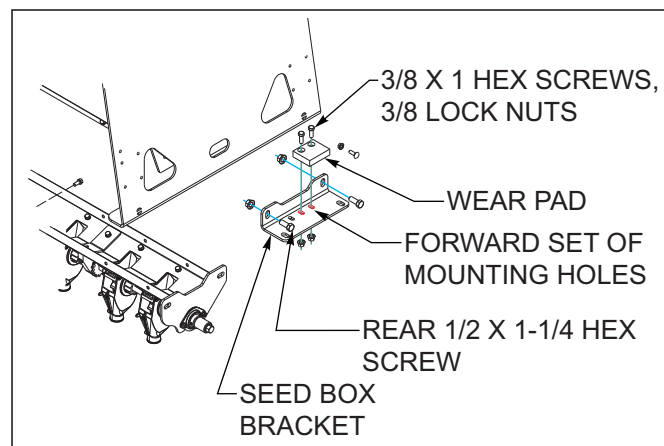

Figure 3-4: Removal of Rear Screw from Existing Seed Box Bracket
8. Just in front of the small seed bearing assembly, remove the rear 1/2-13 x 1-1/4 hex head cap screw from the existing seed box bracket See Figure 3-4.